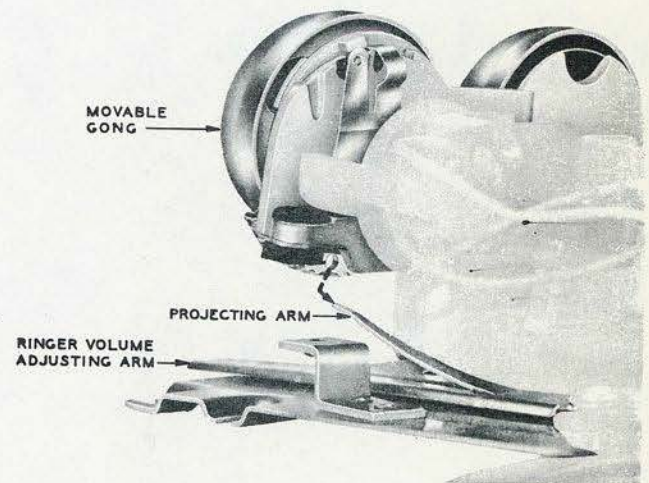

Fig. 15 - Assembly of C4A Ringer in 685-, 6-, 7-, and 8-Type Subscriber Sets, Side View
3.02 When replacing the C-type ringer in 686-, 7-, and 8-type subscriber sets, take care that the locating pin and projecting arm are properly seated before securing mounting screws (Fig. 15).